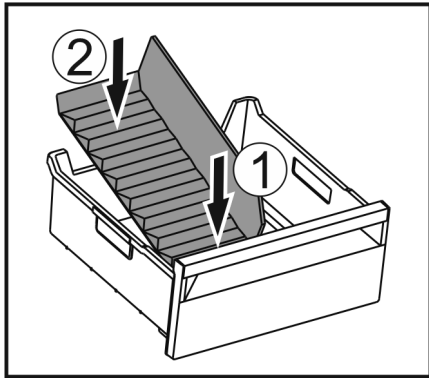

Fig. 171
- ▶ Insert the front part of the ice compartment divider. Fig. 171 (1)
- ▶ Lower the rear part of the ice compartment divider to the drawer bottom. Fig. 171 (2)